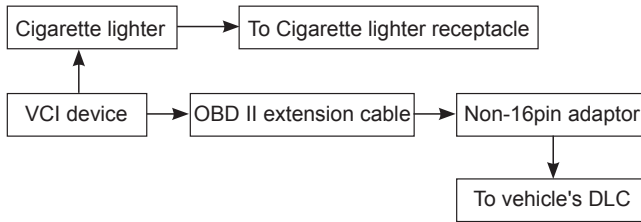

Fig. 5-4
1. Tap “VIN SCAN” to enter Fig. 5-4.